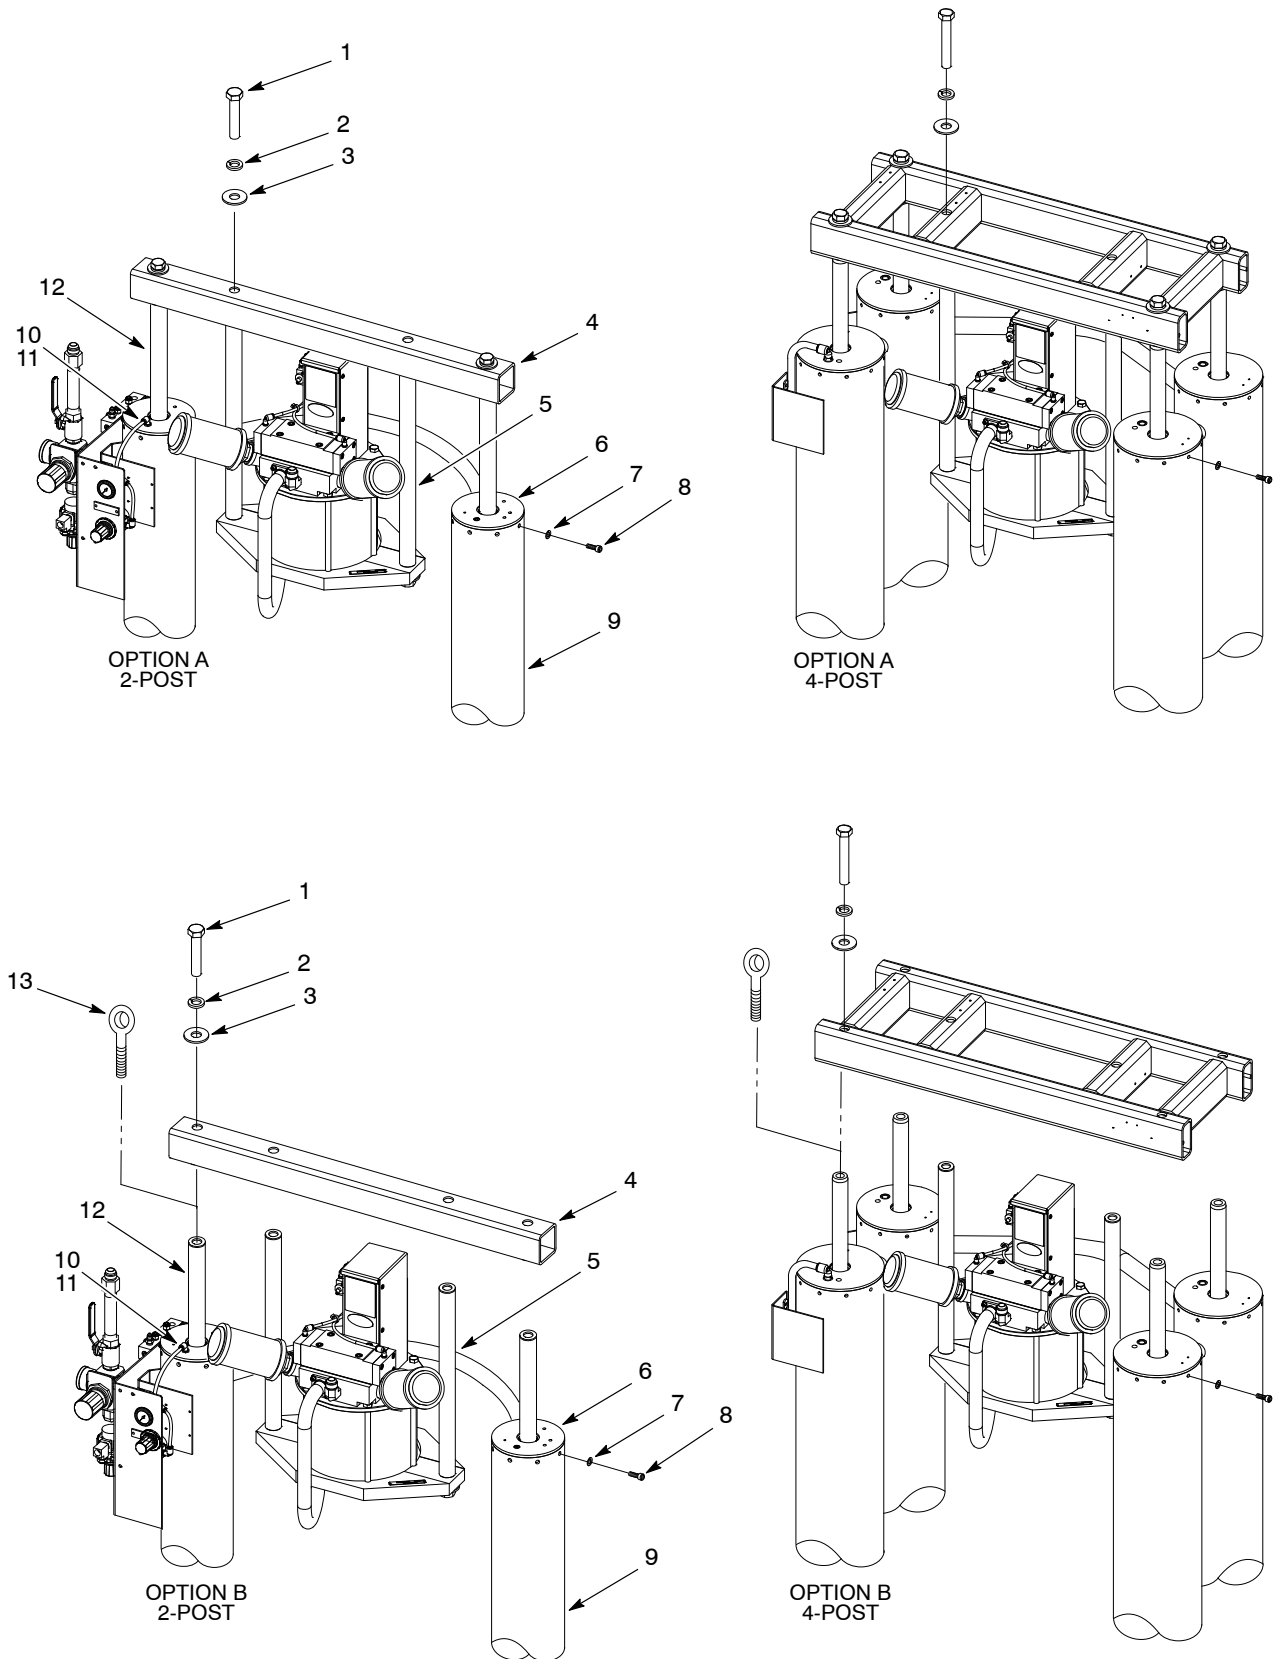

Figure 2 Removing the Cylinder Shafts
See Figure 2. There are two ways to remove the cylinder shafts; together or separately. Perform the desired procedure.
1. See Figure 2, Option A. Make sure that the tubing (10) is disconnected from the fitting (11).
2. Remove the screws (1), lock washers (2), and flat washers (3) securing the crossover (4) to the mounting rods (5).
3. Remove the cap screws (8) and washers (7) from the air cylinders (9). Note the orientation of the cylinder heads (6).
4. Attach the lifting device to the middle section of the crossover (4) and simultaneously remove the cylinder shafts (12) from the air cylinders (9).
1. See Figure 2, Option B. Make sure that the tubing (10) is disconnected from the fitting (11).
2. Remove the screws (1), lock washers (2), and flat washers (3) securing the crossover (4) to the mounting rods (5) and cylinder shafts (12).
4. Thread the $\frac{7}{8}$ -14 eye bolt (13) into the cylinder shaft (12). Attach the lifting device to the eye bolt. Use the lifting device to remove the cylinder shaft from the air cylinder (9). Remove the remaining cylinder shafts in the same manner.
- flat washers (14)
- lock washers (15)
- shaft screw (16)
- Tighten each screw (16) to 250 ft-lb (339 N•m).
- Lubricate the piston seal (11) with O-ring lubricant.
- Carefully guide the cylinder shaft (7) into the air cylinder (19) until it bottoms out. Install the remaining cylinder shaft in the same manner.
- Orient the cylinder heads (4) as noted during removal.
- Install each cylinder head (4) into an air cylinder (19). Install the washers (17) and cap screws (18) into each cylinder. Tighten each screw (16) to 10–15 ft-lb (14–20 N•m).
- Connect the air tubes (20) to the fittings (21).
- Install any device or bracket that was removed from the top of the cylinder head (4).
- See Figure 2, Option B. Apply Loctite 242 to the threads of the screws (1). Install the crossover (4) to the cylinder shafts (12) and mounting rods (5) using the screws, lock washers (2), and flat washers (3). Tighten the screws to 250 ft-lb (339 N•m).